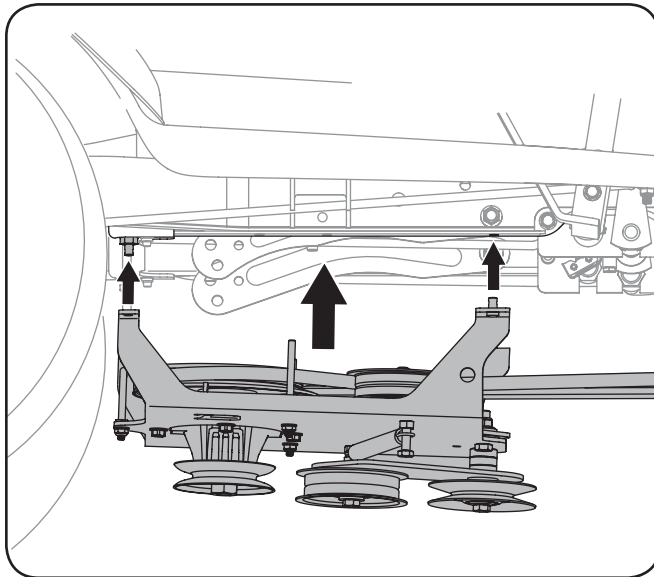

Figure 3-3
3. Place the undercarriage assembly beneath the tractor and lift it up against the frame of the tractor. See Fig. 3-3.